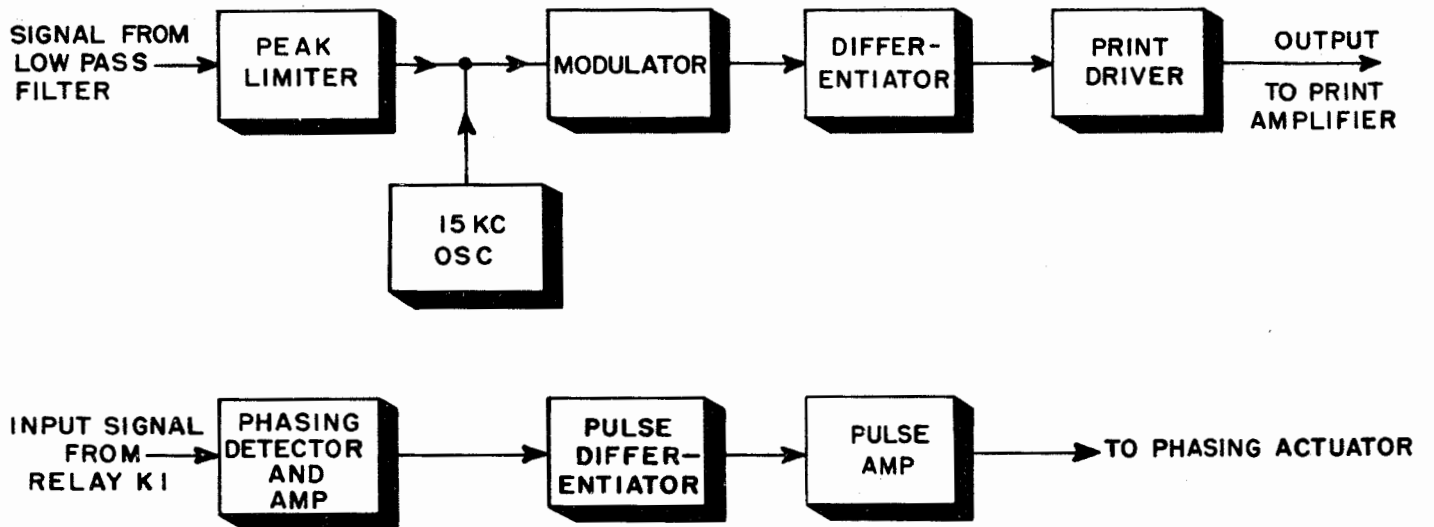
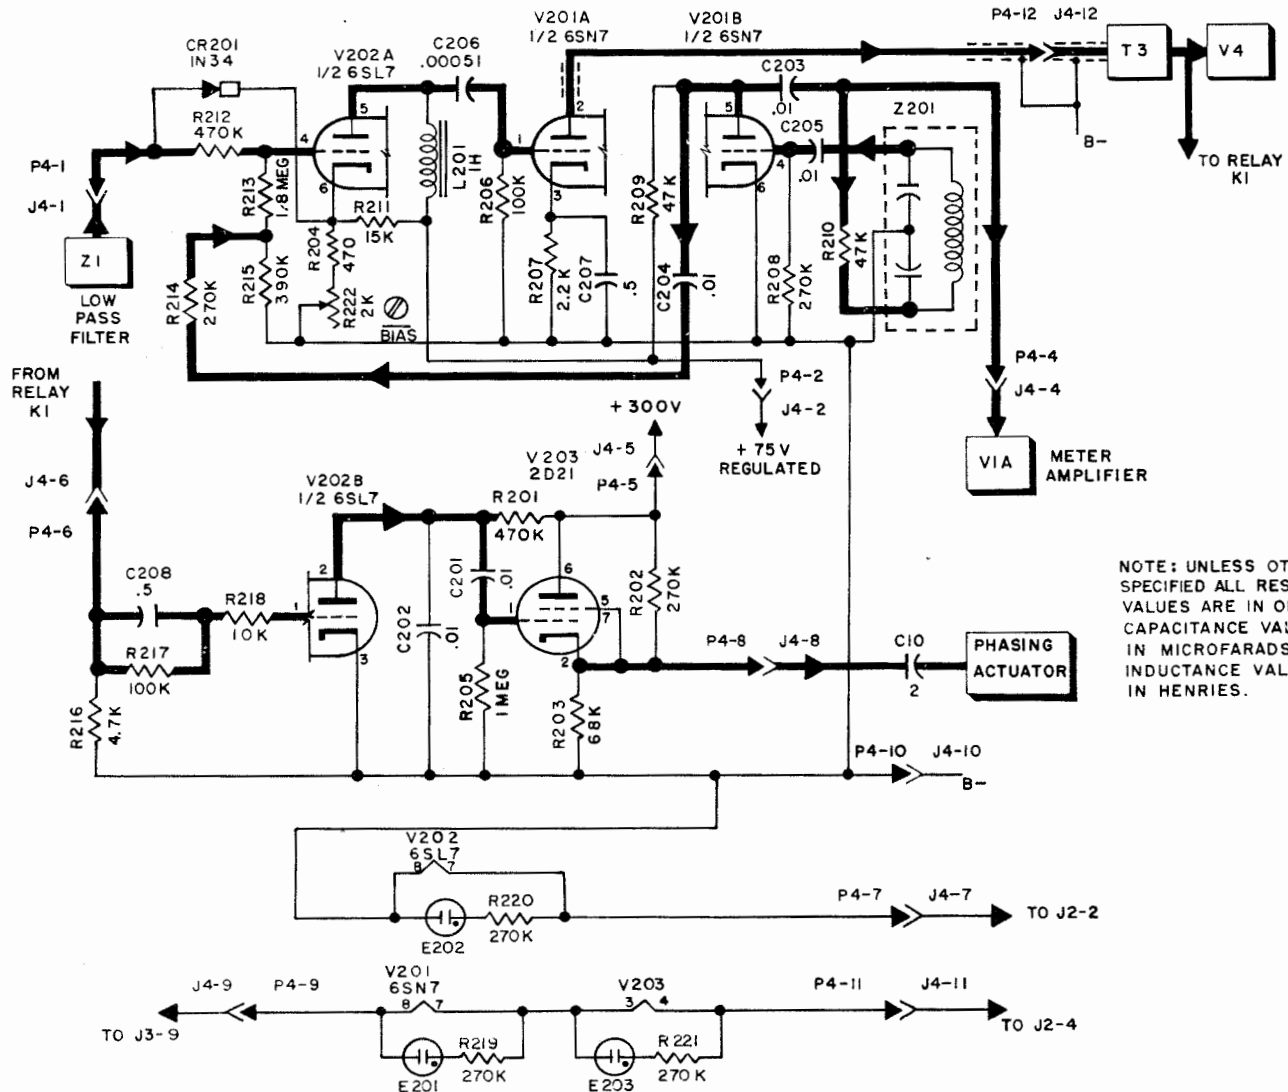

Figure 2-5. Block Diagram of Amplifier-Modulator
Figure 2-6. Schematic Diagram of Amplifier-Modulator
c. AMPLIFIER-MODULATOR.—The amplifier-modulator, a plug-in subassembly located at the rear of the recorder, accepts the facsimile signal output from the low pass filter and puts out a signal that may go either to the print amplifier for application to the stylus or to the phasing detector and pulse amplifier for application to the phasing actuator. The subassembly contains two distinct circuits. One comprises the 15 kc oscillator, modulator and print driver, while the other is the electrical portion of the phasing circuit. (See block diagram, figure 2-5, the circuit schematic of the unit, figure 2-6, and the over-all schematic, figure 7-13.)